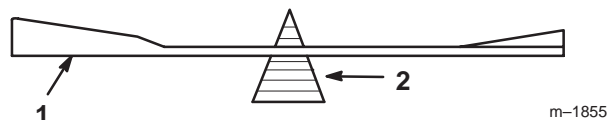
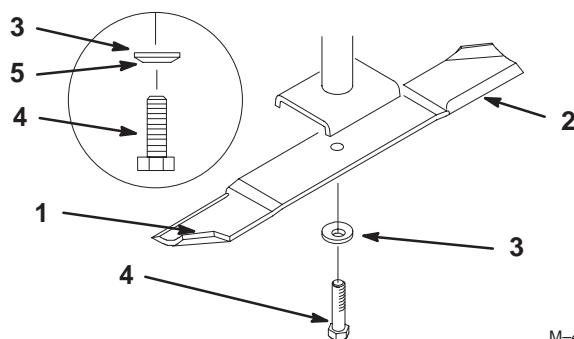

Figure 33
Figure 34
1. Hold the blade end using a rag or thickly-padded glove. Remove the blade bolt, spring disk and blade from the spindle shaft (Fig. 34).
2. Check the balance of the blade by putting it on a blade balancer (Fig. 33). If the blade stays in a horizontal position, the blade is balanced and can be used. If the blade is not balanced, file some metal off the end of the sail area only (Fig. 34). Repeat this procedure until the blade is balanced.
1. Install the blade onto the spindle shaft (Fig. 34).
2. Install the spring disk and blade bolt (Fig. 34). **Torque the blade bolt to 85–110 ft-lb (115–150 N•m).**